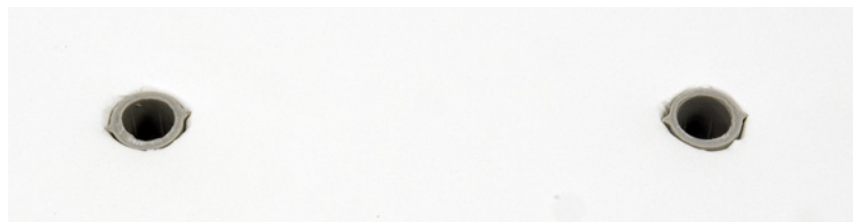

Figure 4 Plastic drywall anchors installed in wall
- 4 If required, install the supplied drywall anchors into the drilled holes, and make sure each anchor is flush against the wall's edge (Figure 4).